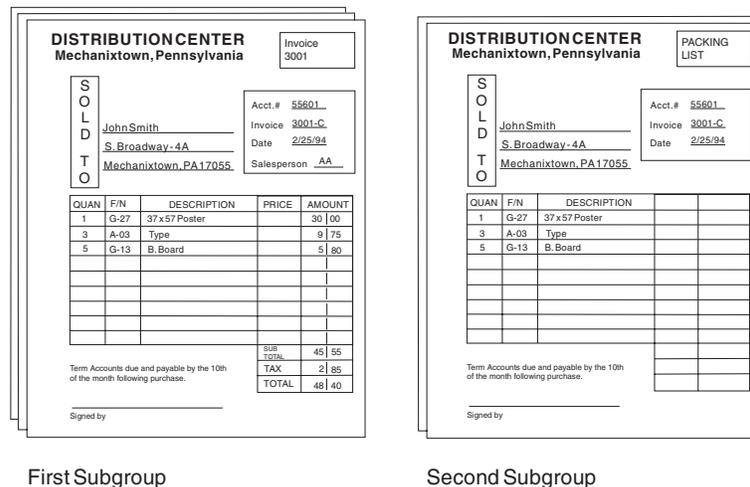

Figure 27. Subgroups printed from one page of the data set
**Overlay identification:** You can identify the names of up to eight medium overlays and one medium preprinted form overlay, a total of nine medium overlays, for each side of a sheet. In Figure 27 on page 66, the INVOICE overlay was printed for the first subgroup, and the PACKLIST overlay was printed for the second subgroup.
**Data suppression:** You can identify up to eight suppression names (names identifying fields that are not to be printed), provided they are defined in the page definition. In Figure 27 on page 66, no suppression names were specified for the first subgroup, and three suppression names were identified for the second subgroup: Salesperson, PRICE, and AMOUNT.
As an example, Figure 27 on page 66 shows a page in a data set that is printed by using a copy group containing two subgroups. In the first subgroup, three